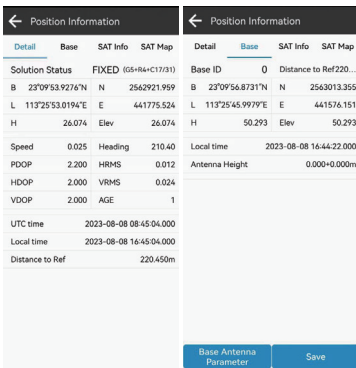
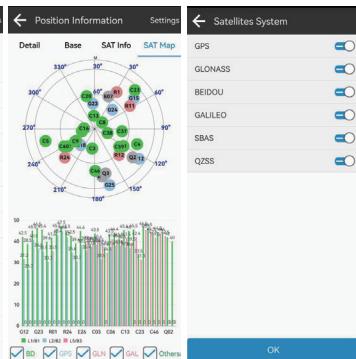

Figure 2.13-2
Figure 2.13-3
4. Click on the "102.000 v2.0.01" in the software's title bar to view the device's output positioning information, as shown in Figure 2.13-2. You can switch to view the base station information as well as the star chart and satellite constellation information, as shown in Figures 2.13-3, 2.13-4, and 2.13-5. Since the differential data does not transmit the antenna parameters of the base station but only the emission phase center coordinates, you can input the corresponding antenna parameters of the base station to obtain its ground coordinates.